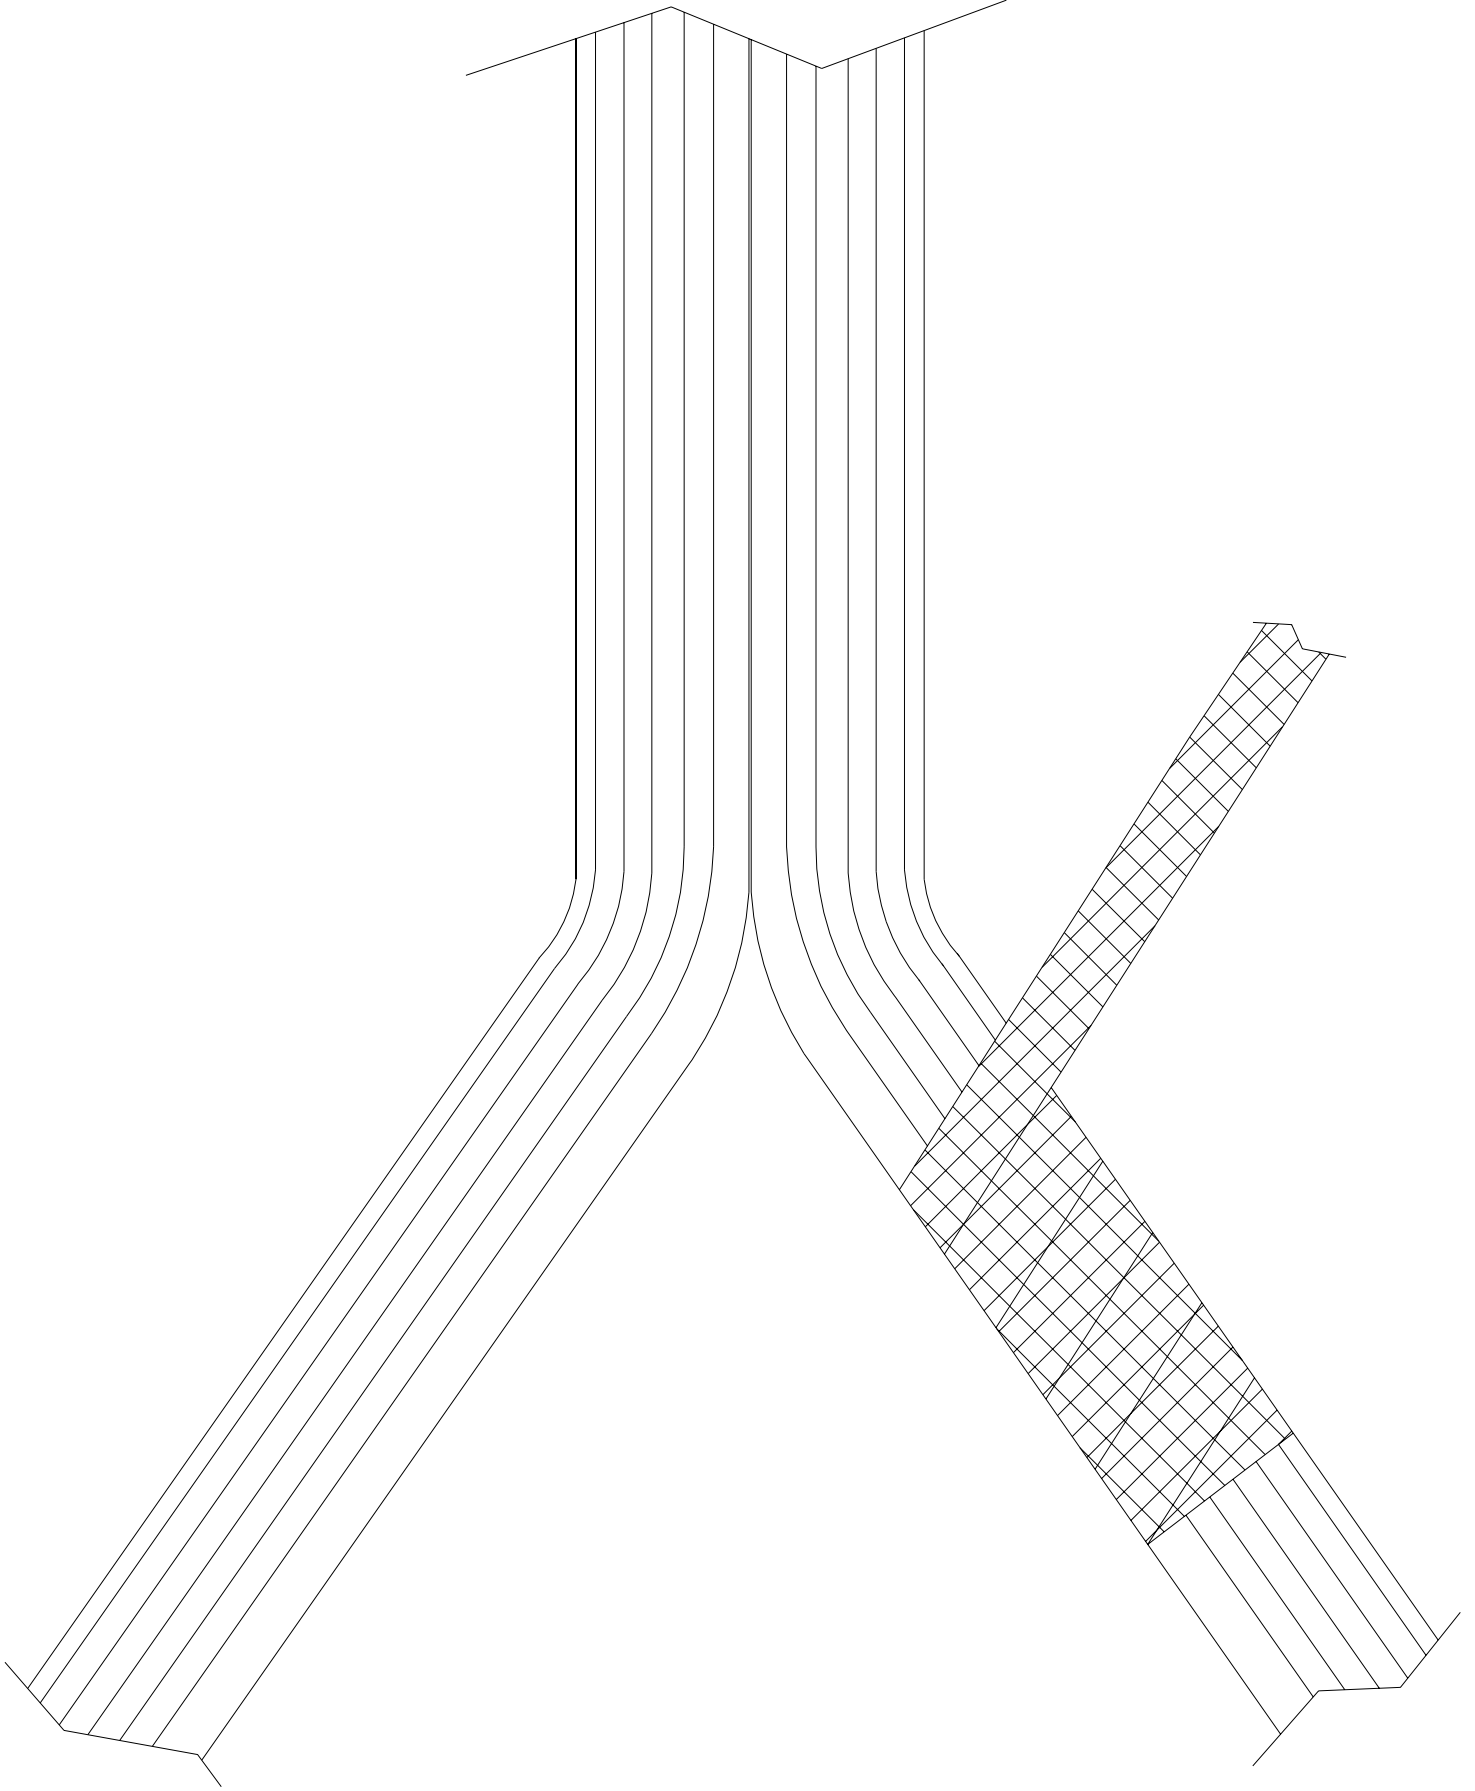

FIGURE 12. SHIELD TAPE ON TRANSITION OR BREAKOUT
- Step 1. Spirally wrap the wire bundle in the breakout area using the appropriate EMI shielding tape. Use a 50% overlap technique and cover each leg of the breakout 3 to 6 inches (exact dimension will vary with cable diameter) from the breakout crotch. Insure the that crotch area is fully covered. (Figure 12 and 13)